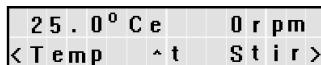

Figure 7-7
- the main screen menu will look like the illustration seen in Figure 7-7.